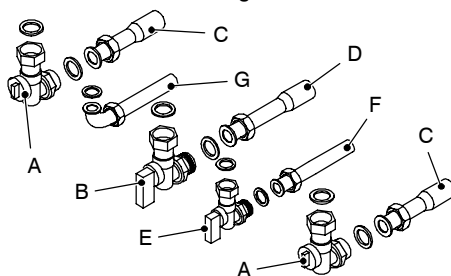

Fig. 6.3
- 4 Fix the c.h. valves A and gas cock B ( $\frac{3}{4}$ " ) to the boiler using the  $\frac{3}{4}$ " gaskets (Fig. 6.3)